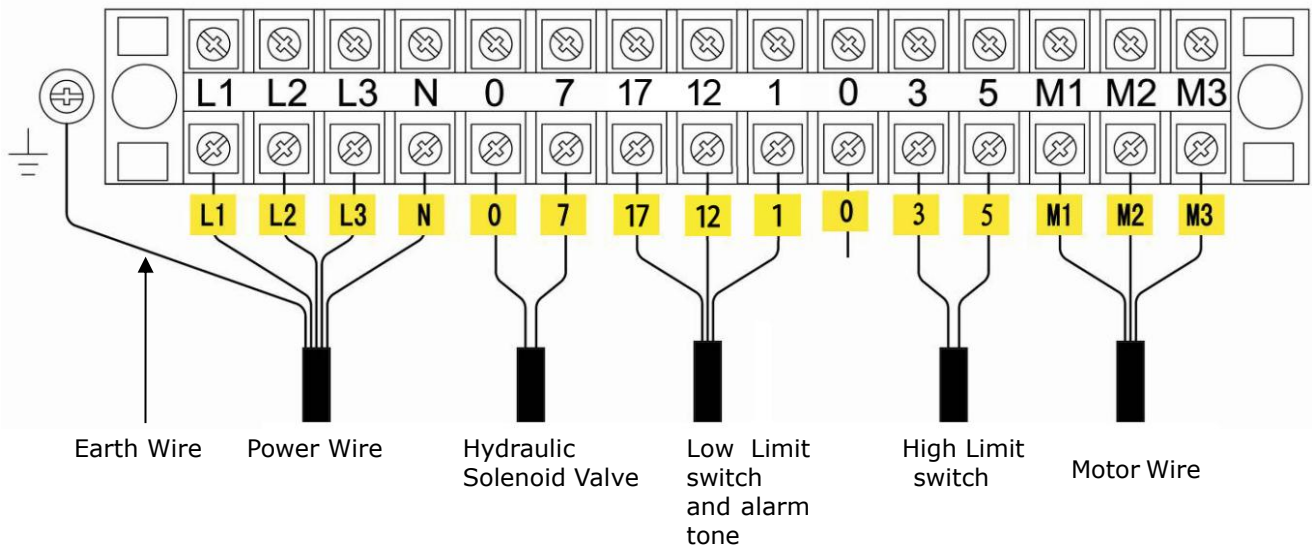

Fig. 27
1.1 Connect the wire of power and limit switch as below wiring diagram (See Fig. 27).